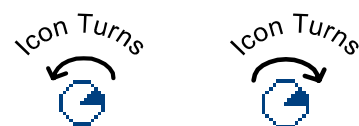

Figure 2-8. Animation of the Motion Icon
-  ← MOTION (see Figure 2-8)
When the drive is running (speed feedback is not zero), the **animated motion** icon appears in this position. It rotates (see Figure 2-8) in the direction selected with the direction arrow key (described in Table 2-1).